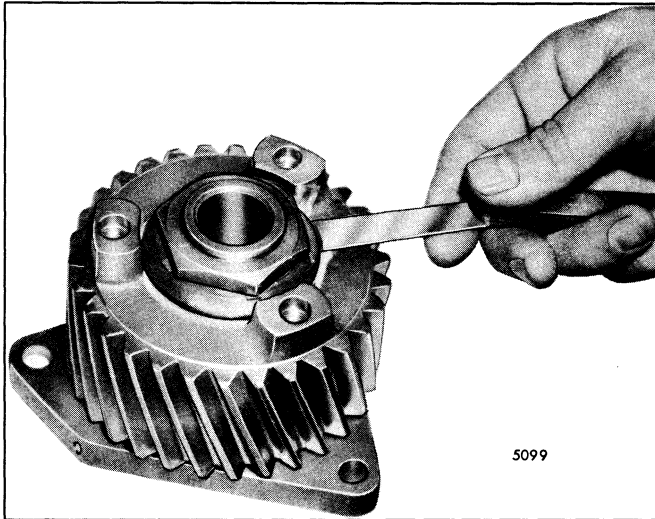

Fig. 6 – Checking End Play
7. Check the clearance between the drive gear support thrust washer and the drive gear thrust washer. The clearance should be .002”-.018” (Fig. 6).